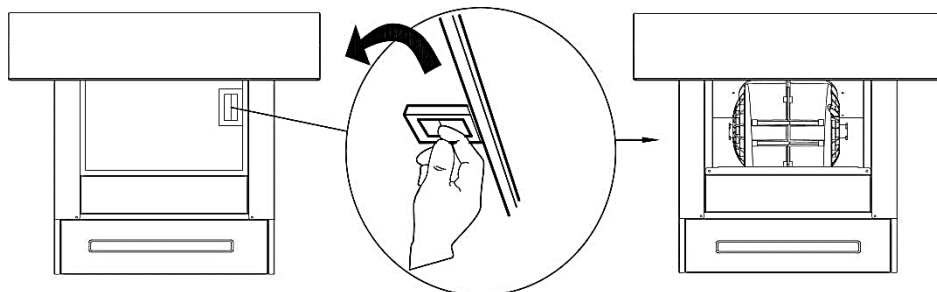

Fig. 19
- Carbon filter can be used to trap odors. (see Fig. 19)